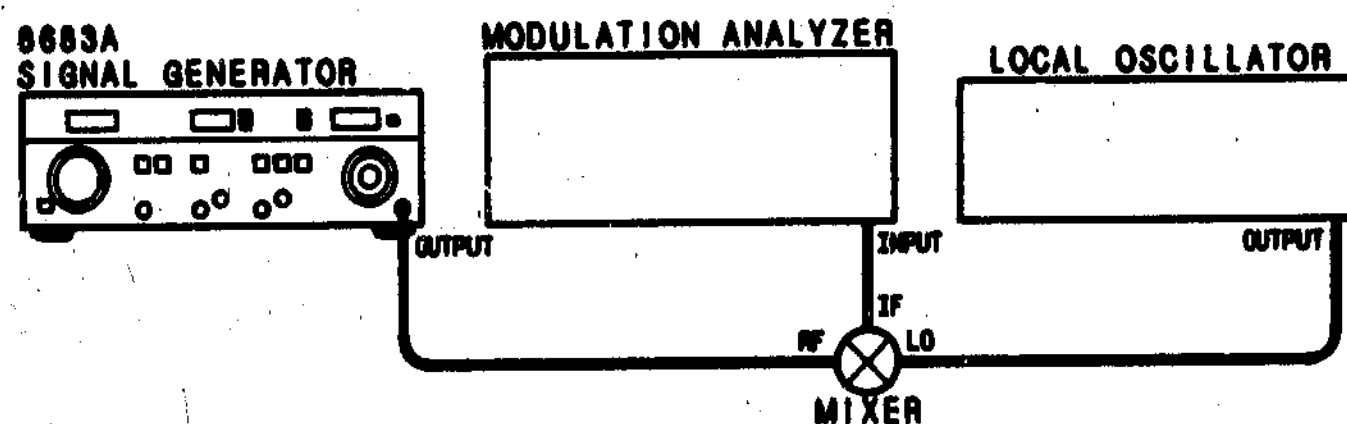

Figure 4-2. Residual FM Test Setup
15. Connect equipment as shown in Figure 4-2. Set the output of the Signal Generator under test and the generator used as a local oscillator to maximum power. Verify that nothing is connected to the modulation inputs, and that all modulation selectors are off.